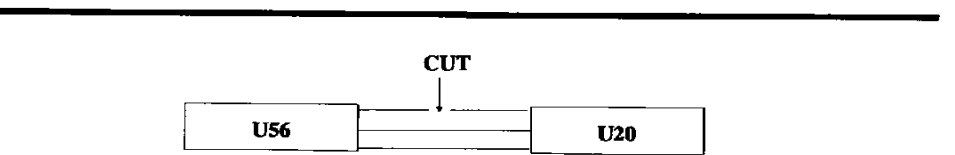

Figure 3
7. \_\_\_\_\_ On the component side of the PC board (top right corner), cut the trace going to U20, pin 17. A convenient place to cut this trace is between U20 and U56. (See Figure 3)